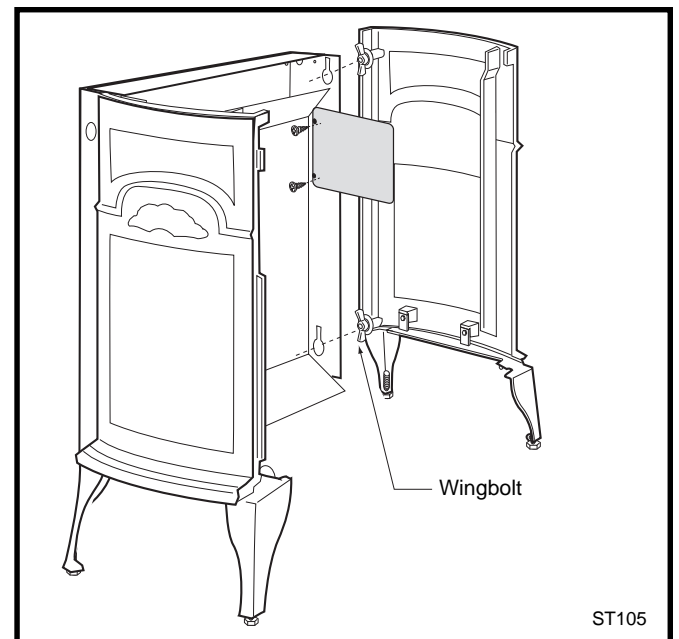
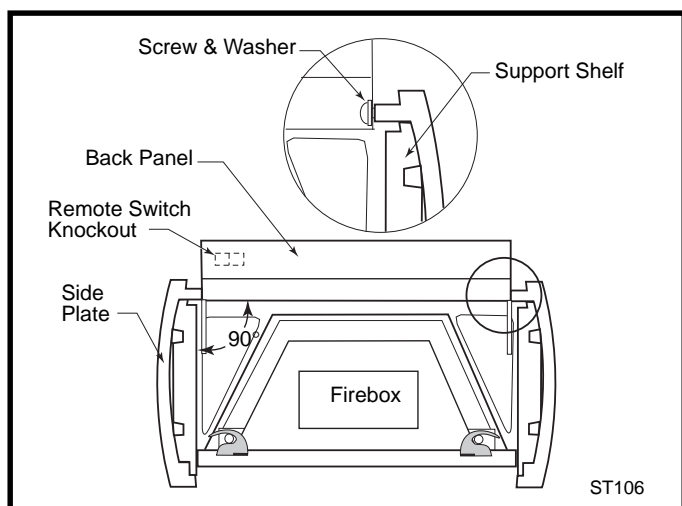
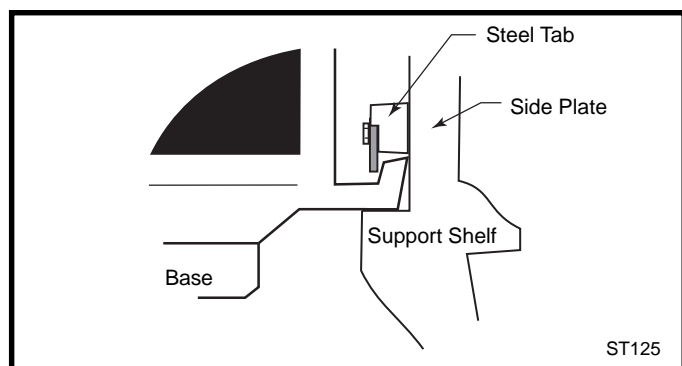

Fig. 4 Secure Right Side to the Back Panel.
Fig. 5 The sides must be at right angles to the Back Panel in order for the firebox to fit properly.
Fig. 6 Install the Firebox Assembly. Be sure steel tabs engage ribs on base of firebox.
3. Attach the Right Side Plate to the Back Panel in a similar manner. Tighten the upper and lower wingbolt. (Fig. 4) Move this assembly into the final position and align the two side plates perpendicular to the Back Panel as in Figure 5.
6. Lift the firebox assembly as a unit and slide it back to position it within the shell. The base of the firebox should rest on the side support shelves as in Figures 5 and 6. The side plates interlock with the firebox by use of a pair of steel tabs that engage with the ribs on the base of the firebox. (Fig. 6) Properly positioned, the firebox will be level and locked in place. If not, adjust the levelling screws as required to keep the entire assembly level.